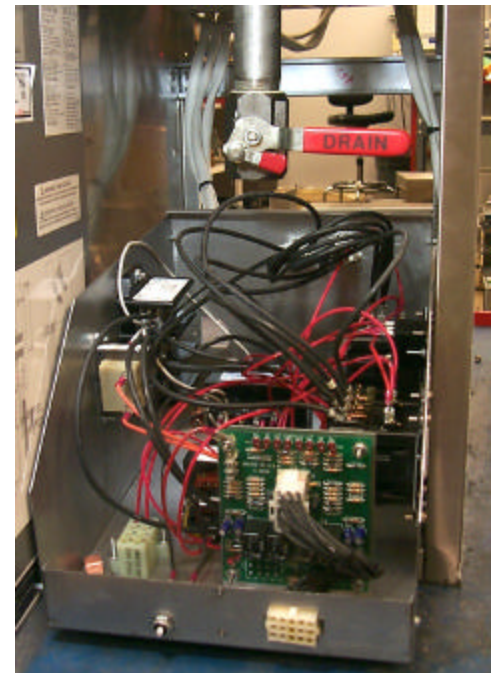

Fig: 10-10
7. Lift the front of the contactor over the mounting hardware and pull forward out of the cabinet the distance the wiring harness will allow. **Fig: 10-10**